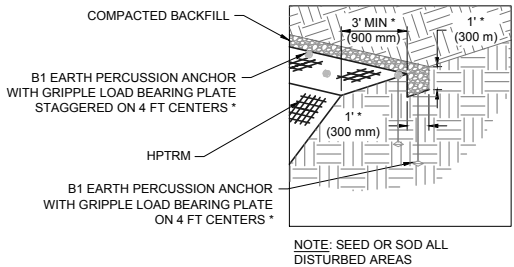

FIGURE 3: TOP OF BANK (TOB) ANCHOR TRENCH
- Excavate the Top of Bank (TOB) Anchor Trench 1 ft wide x 1 ft deep (300 x 300 mm) minimum wide along both sides of the installation (see Figure 3). Each TOB Anchor Trench shall be located 3 ft (900 mm) minimum over crest of bank.
- Beginning at the downstream end of the channel, place HPTRM roll end into a TOB Anchor Trench and secure with Gripple Earth Percussion Anchors on 4 ft (1.2 m) centers (see Figure 3).
- Unroll HPTRM down the first channel bank and up the opposing channel bank, terminating the HPTRM roll end into the opposite TOB Anchor Trench and secure with Gripple Earth Percussion Anchors on 4 ft (1.2 m) centers (see Figure 3).